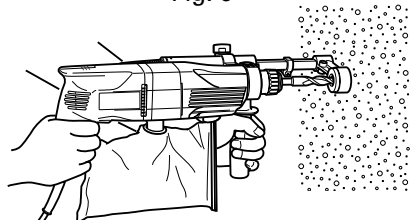

Fig. 7
- (1) Mount the drill bit.
- (2) Pull the trigger switch after applying the drill bit tip to the drilling position (Fig. 7)
- (3) Pushing the rotary hammer forcibly is not necessary at all. Pushing slightly so that drill dust comes out gradually is just sufficient.
- When the drill bit touches an iron reinforcing rod, the bit will stop immediately and the rotary hammer will react to revolve. Therefore please grip the side handle and handle tightly as shown in Fig. 7.